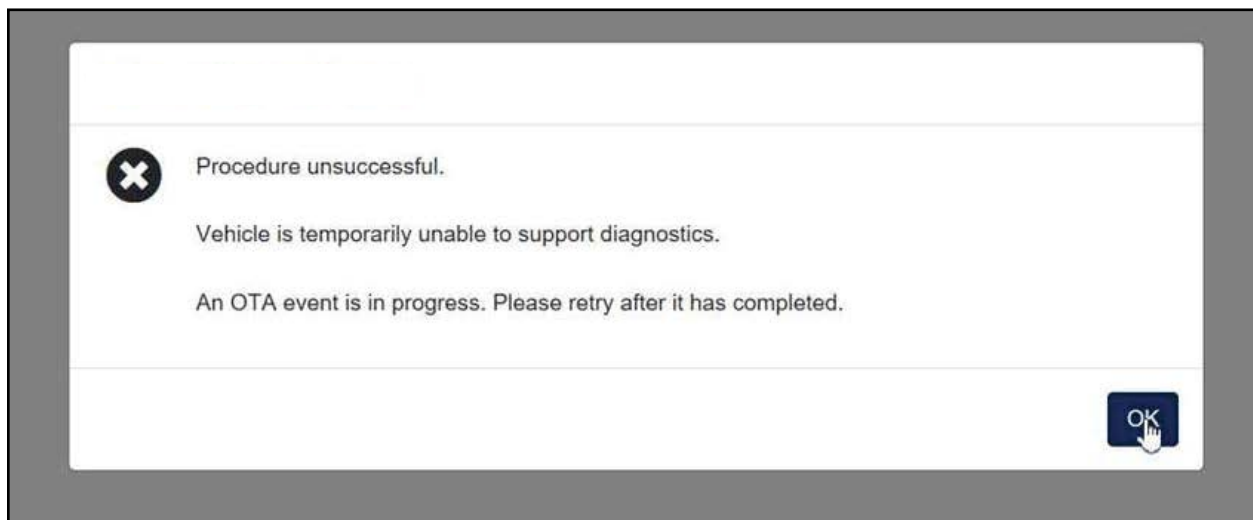

FIGURE 11
24. Was a **Procedure Unsuccessful** displayed on the screen as shown in Figure 11?